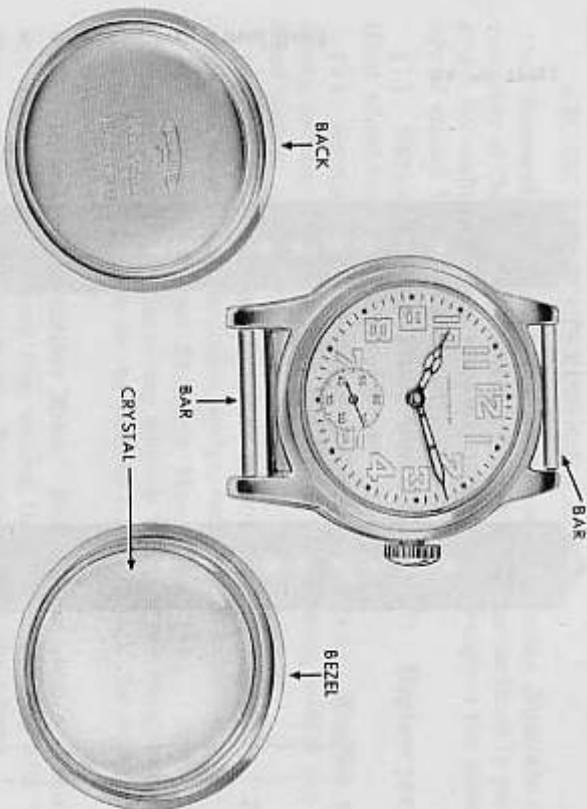

Figure 151 — Waltham Wrist Watch — Case Back and Bezel Removed
- a. Remove Case Back and Bezel (fig. 151). Insert a case opener in slot in back and pry it off. Remove bezel in the same manner. A few 6/0's have been issued in screw-type cases. Check for this carefully before attempting to pry off back and bezel.
**o. Replace Back and Bezel (fig. 151).** Replace back and bezel on case band and snap into position.